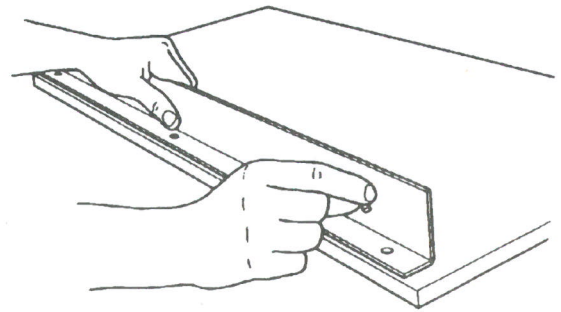

Fig. 3
9. Thread three socket head cap screws through the fence and into the table inserts. See Fig. 3. Finger tighten.